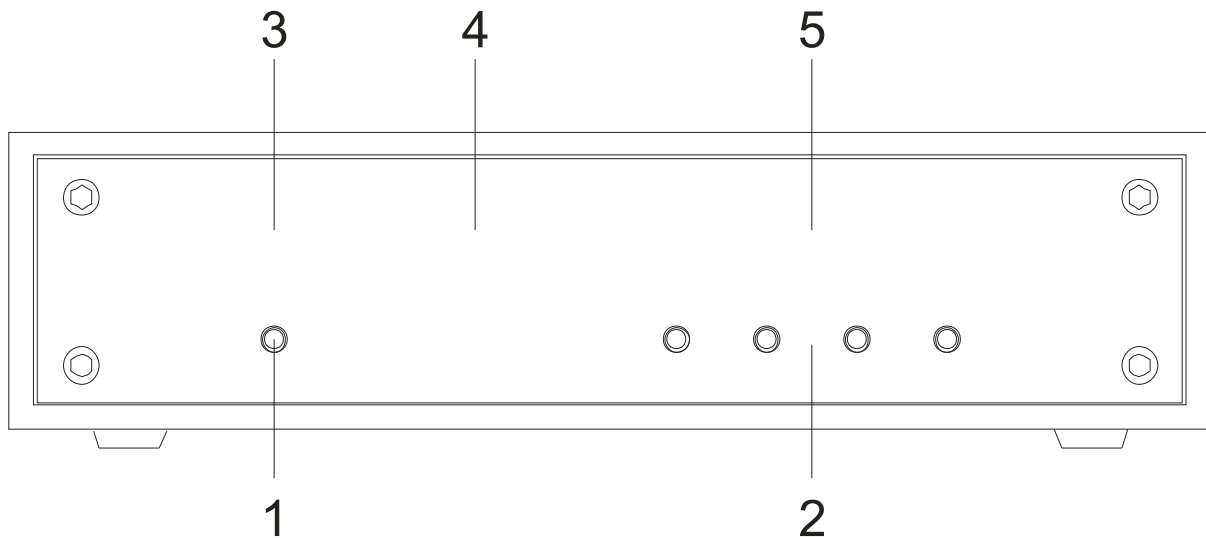
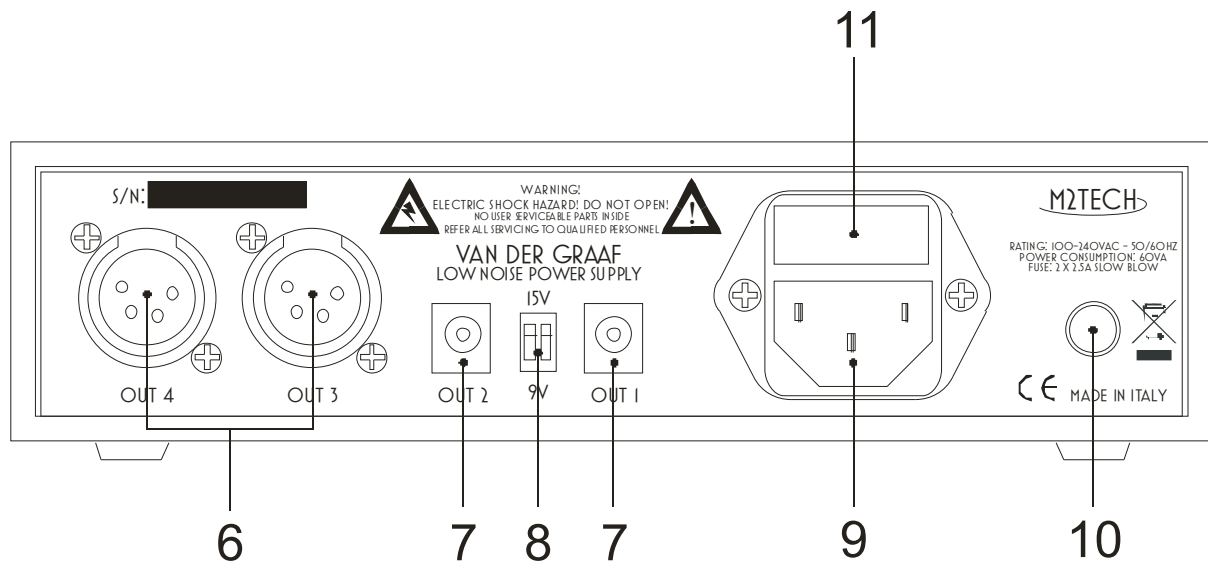

Figure 1
Figure 2
1) Global enable button. Push this button to activate the VAN DER GRAAF when it's in standby (LED 4 on and LED 3 off). Following the operation of this button, all outputs previously enabled by the user with their buttons (item 2, Fig. 1) will activate, in the same sequence as the user manually activated them, with 1 second intervals. The related LED's will turn on to indicate activation. During the process, LED 3 blinks. At the end of activation process, LED 3 glows steadily. When the VAN DER GRAAF is active, user may put the VAN DER GRAAF in standby, disabling the outputs in reverse
10) Power switch. Push this switch to toggle VAN DER GRAAF power. When powering the unit, LED 4 (Fig. 1, Pag. 11) will glow and the VAN DER GRAAF will enter standby.
Connect one or two units with +15V or +9V single supply input to VAN DER GRAAF output 1 and 2 (Fig. 2, 7), using the stock cable, after selecting the right output voltage for each powered unit. For example, when powering a YOUNG DSD with output 1, the voltage selector closest to the output socket (Fig. 2, 8) must be set to the upper position. On the other hand, when output 2 is used to power a HIFACE EVO, then the voltage selector closet to it must be set to the lower position.
Connect one or two units with composite supply input (+5V/+15V/-15V) to VAN DER GRAAF output 3 and 4 (Fig. 2, 6), using the stock cables. One such unit is, for example the MARLEY.
Connect the stock power cord to VAN DER GRAAF power socket(Fig. 2, 9) and to a wall outlet.
Push the power switch on the back panel (Fig. 2, 10) to turn the VAN DER GRAAF on. The power LED on the front panel (Fig. 1, 4) will glow. The VAN DER GRAAF will enter standby, waiting for enabling by the user.
Push the global enable button (Fig. 1, 1). At first enable, this action will have no effect on outputs. At following enables, if the user has previously enabled one or more outputs, they will activate in the same order as the user manually enabled them..
When the VAN DER GRAAF is in standby (only LED 4 on), it is possible to activate it pushing the global enable button (Fig. 1, 1). Immediately after this button operation, the global enable LED (Fig. 1, 3) starts blinking and the previously enabled outputs are activated in the order chosen by the user, at one second intervals. At the end of the activation process, the active outputs are indicated by the related LED, which is on, and the global enable LED glows steadily.
NOTE: the outputs activation sequence is stored by the VAN DER GRAAF when it enters standby. If the power switch (Fig. 2, 10) is used to shut down the VAN DER GRAAF, then the sequence, even if changed from the previous standby, is not stored and the VAN DER GRAAF will use the last stored sequence upon following activation, not the latest one.